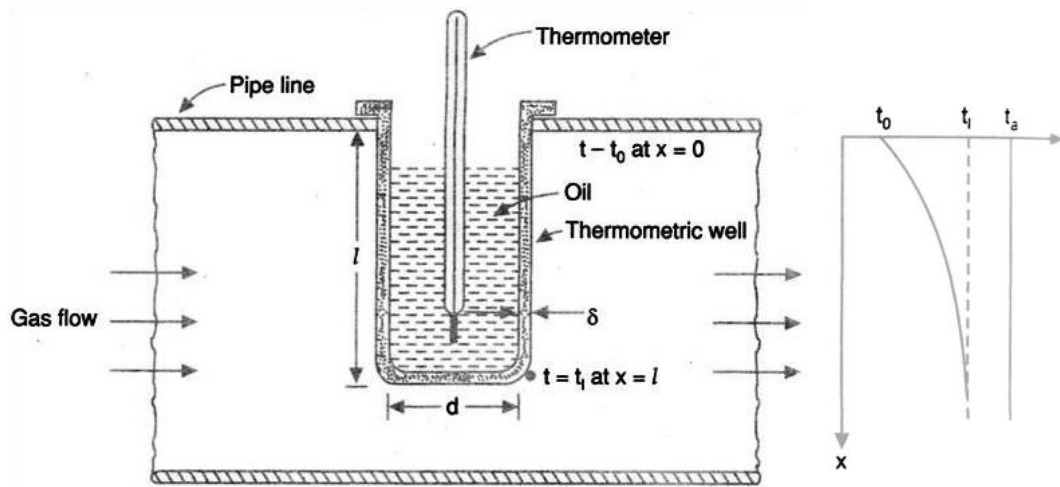

Fig. 3.9 Thermometric well
- Figure 3.9 shows an arrangement which is used to measure the temperature of gas flowing through a pipeline.